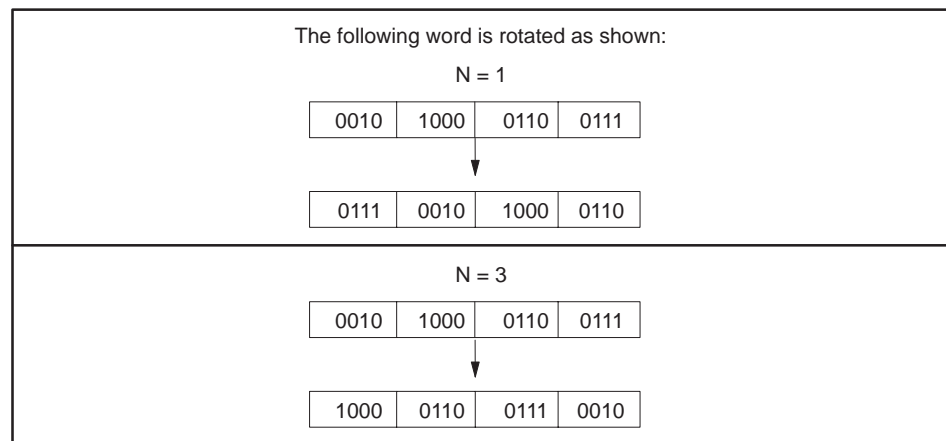

Figure 6-110 Result of a WROT Operation
- A segment can shift up to 3 positions as specified by N. See Figure 6-110.